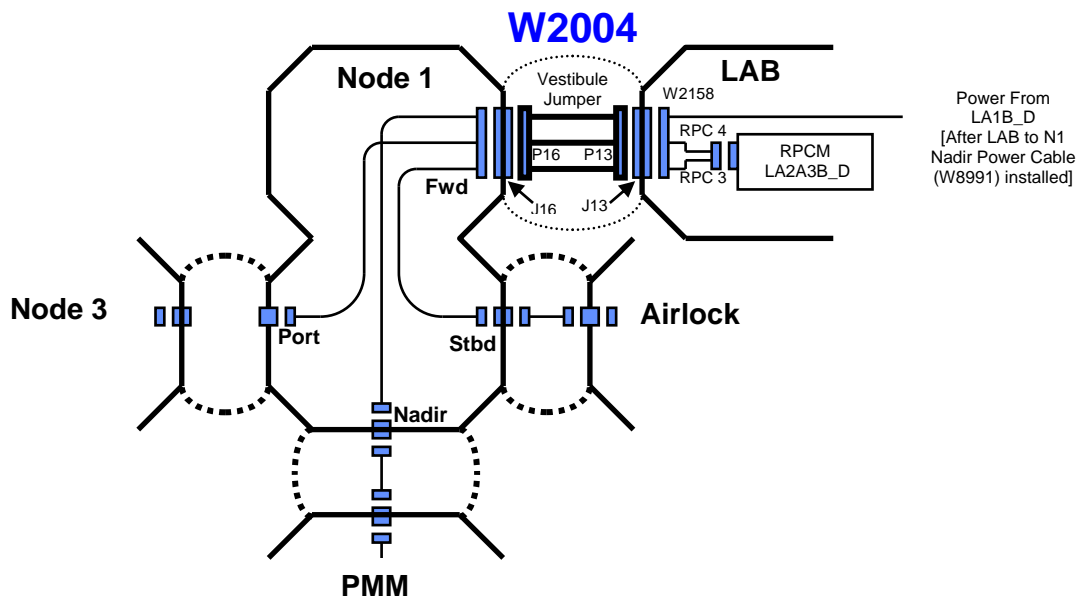
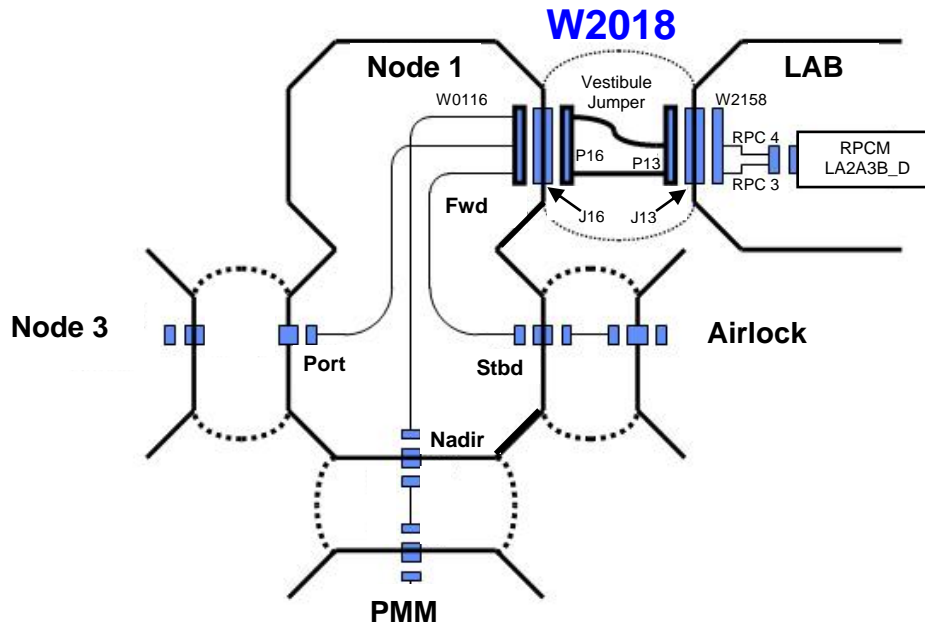

Figure 1.- NOMINAL Config - LAB to NODE 2 EPS Jumper (W2004) Installed
Figure 2.- CONTINGENCY Config - ISS to PMM Contingency EPS Jumper (W2018)
- Figures 1 and 2 show the big picture for jumper configurations. Figure 1 depicts the nominal power jumper configuration (W2004 installed), and Figure 2 depicts the contingency configuration (W2018 installed).
Refer to Figures 1 and 4.